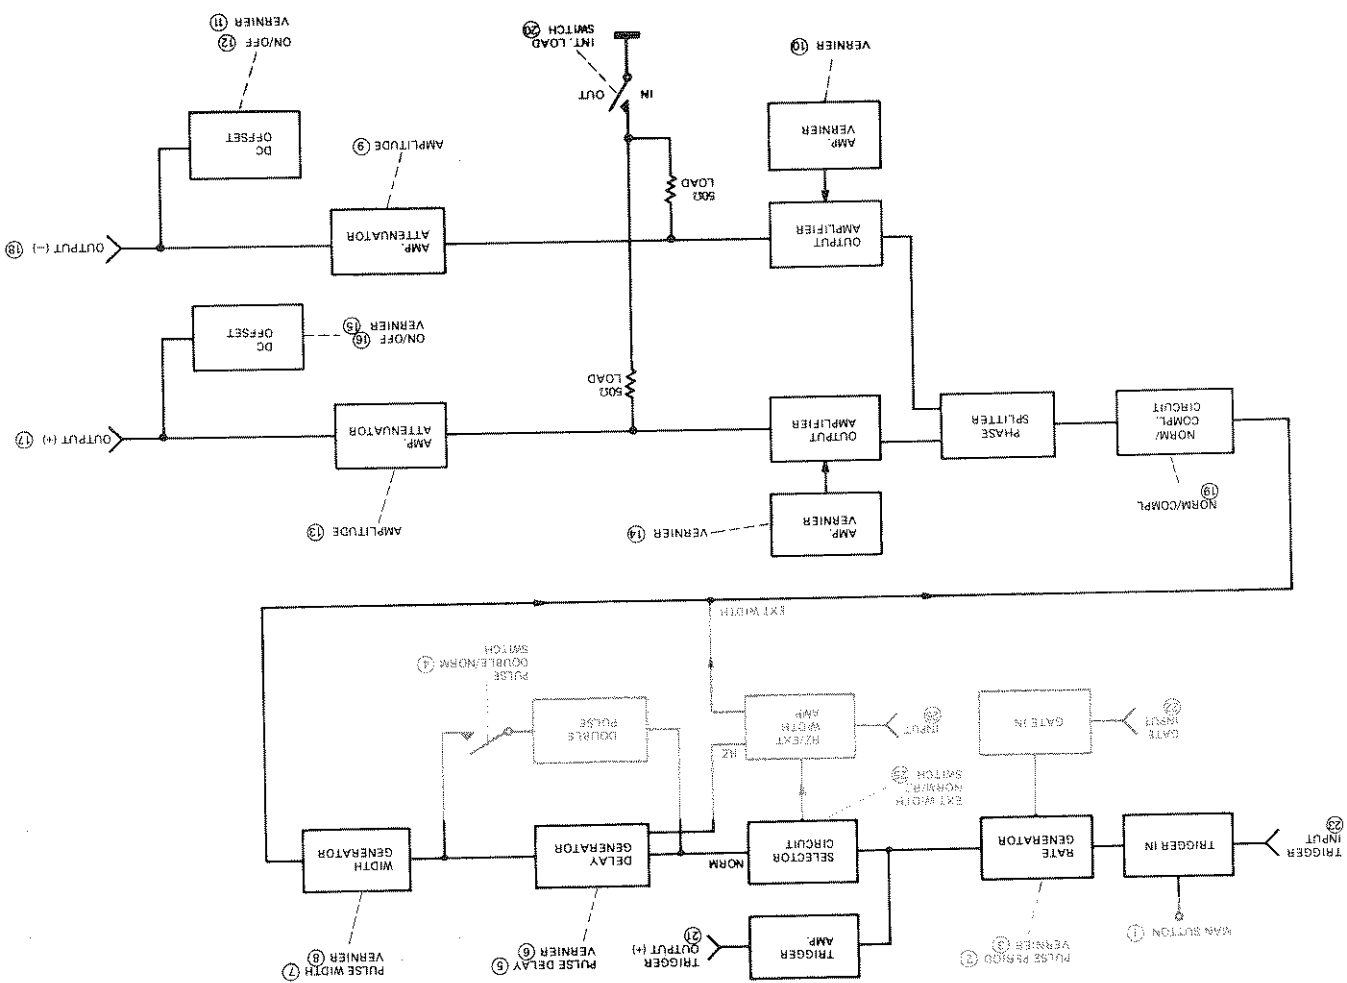
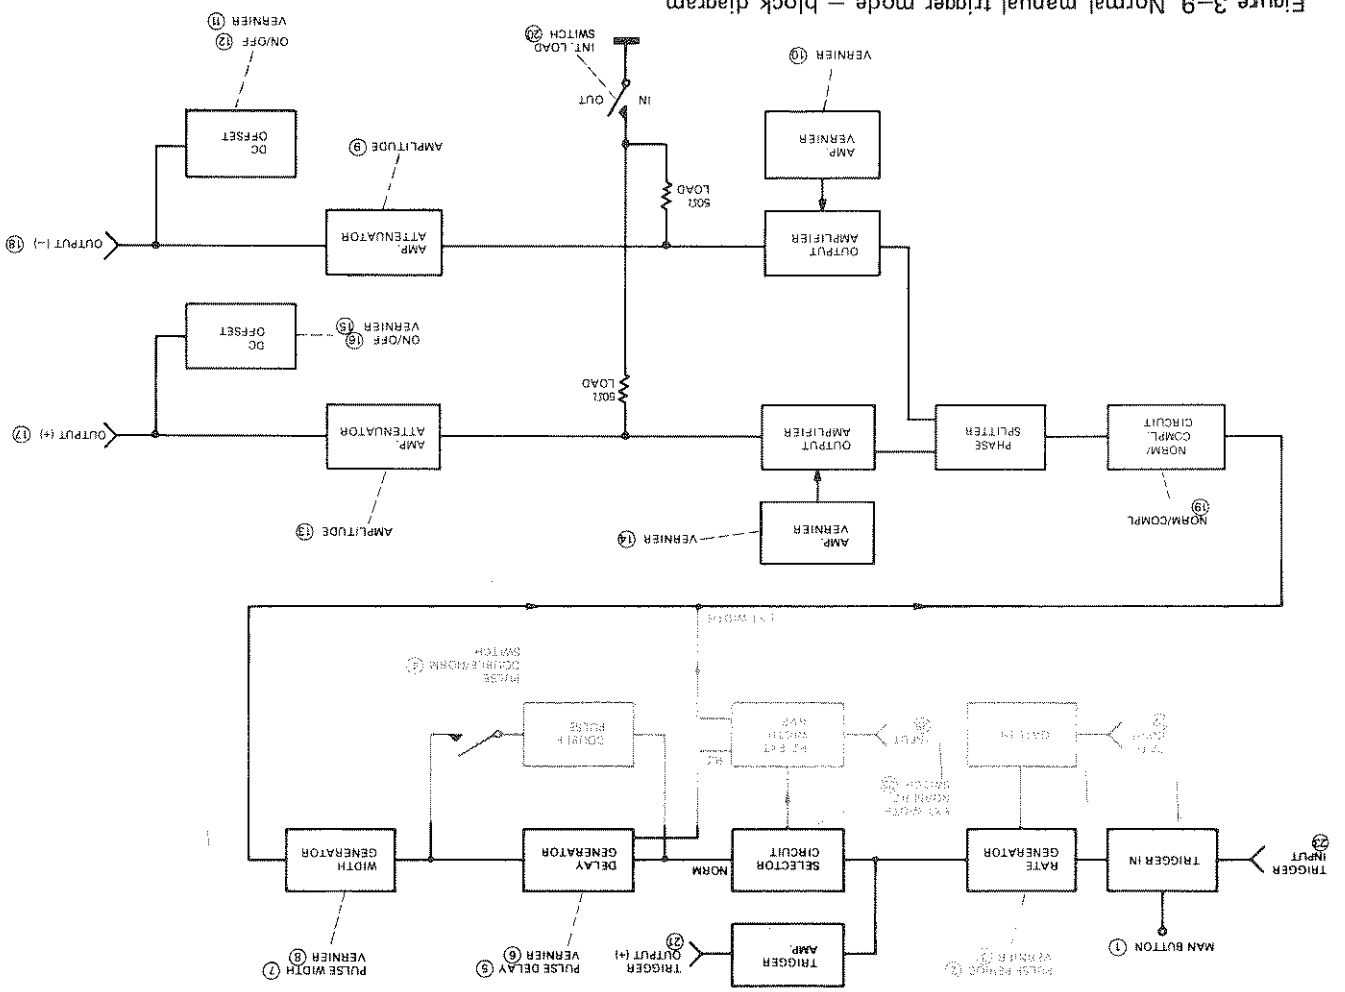

Figure 3-7. Normal external trigger mode - Block diagram
Figure 3-9. Normal manual trigger mode - block diagram
3-20 The circuits and controls involved in normal external trigger mode are shown in Figure 3-7.
- 3-22 The output pulse parameters and formats can be varied using the controls shown in Figure 3-7.
- 3-24 In this mode the repetition rate generator is again disabled and each trigger pulse is produced by pressing the MAN button (1) once.
- 3-25 The circuits and controls involved in normal manual trigger operation are shown in Figure 3-9.
- a. Set the PULSE PERIOD control (2) to either EXT(+) or EXT(-).
- c. Press the MAN button (1) once for each output pulse.
- 3-27 The output pulse parameters and formats can be varied using the controls shown in Figure 3-9.